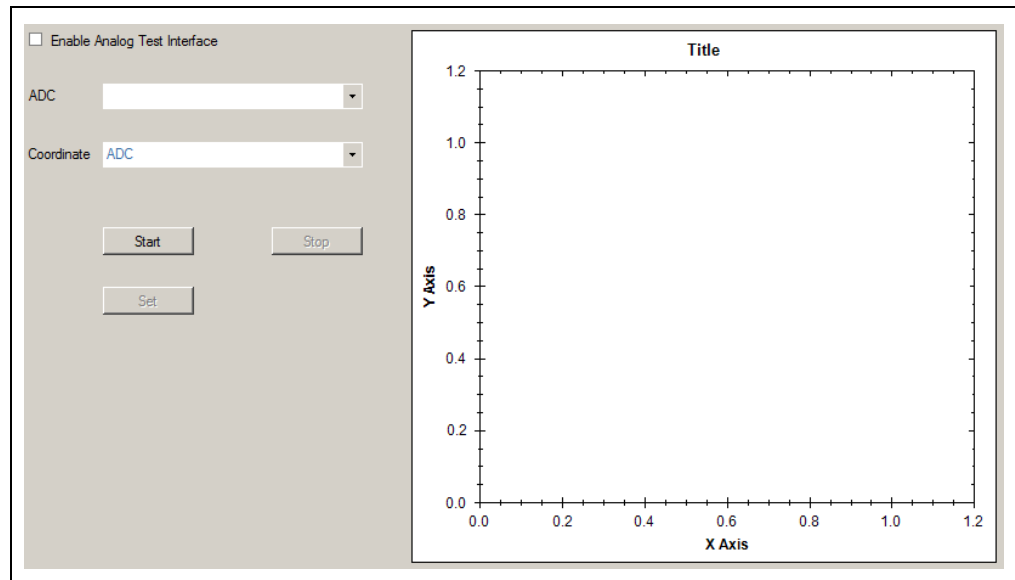

FIGURE 3-14: Statistics Menu.
8. In the Statistics menu (Figure 3-14), select one of the options in the “ADC” selection box to display the corresponding graph. The following options are available: